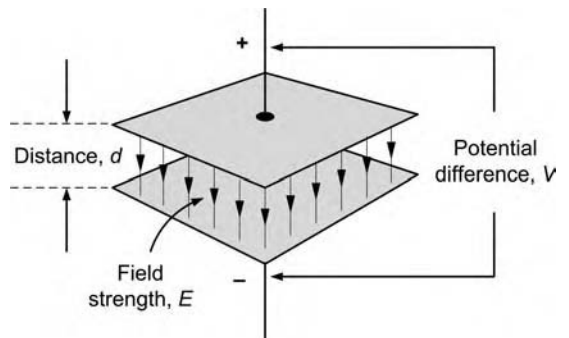

Figure 5.9 Electric field strength.
The strength of an electric field (E) is proportional to the applied p.d. and inversely proportional to the distance between the two conductors (see Figure 5.9). The electric field strength is given by: